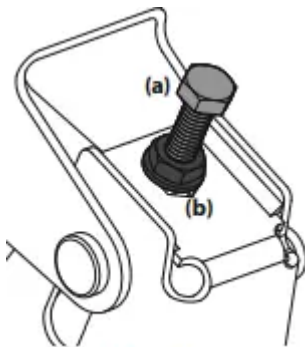

Figure 35
4. Loosen, but do not remove, the jam nuts (b) on the adjustment bolt. Adjust either the right or left adjustment bolt up or down as necessary until the side-to-side heights are equal. See 3. Locate the adjustment bolts (a) on the left and right side of the deck. See 3. Locate the adjustment bolts (a) on the left and right side of the deck. See Figure 35. Note: Continue to check the front-to-back leveling as you make the side-to-side adjustment as the side-to-side adjustment can affect the front-to-back level. If necessary, adjust front-to-back as instructed previously.